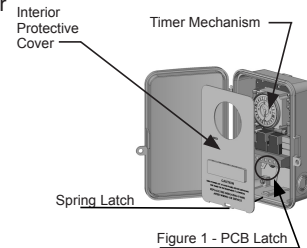

Figure 1 - PCB Latch
1. Open door and remove the interior protective cover by releasing the spring latch (See Figure 1).
2. Remove the printed circuit board by releasing the spring latch holding the bottom of the board (see Figure 1).